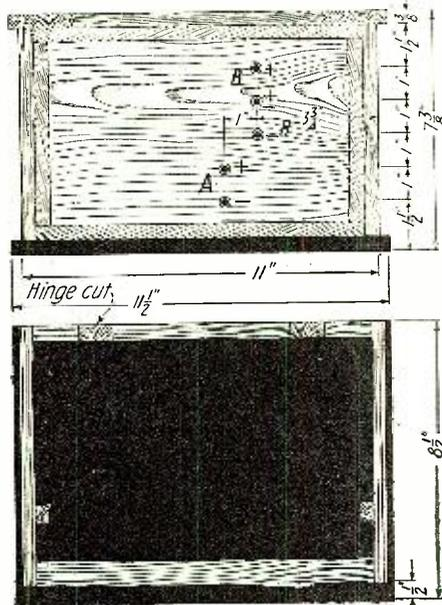

Fig. 4
The cabinet shown in Fig. 4 was made of $\frac{3}{8}''$ oak, mission finish, measuring 7"x11" by $8\frac{1}{2}''$ deep. This matches perfectly with the novel short-wave regenerator unit previously described; in fact, it is the same cabinet except that it is 11" instead of 18" wide. Fig. 4 gives all important dimensions and shows the locations on the back for the battery binding posts.
The battery binding posts are shown schematically in Fig. 3 in vertical rows, as they are shown in the cabinet plan in Fig. 4. With this scheme of battery binding post arrangement it will be found easy to make all battery connections. Beginning at the top we have respectively: (1) Positive terminal of plate battery; (2) Terminal for 22½ detector plate voltage tap; (3) Negative terminal of plate battery; and below and in a line to one side; (4) Positive terminal of storage battery; and (5) Negative terminal of storage battery. This gives us a simple rule to follow when hooking on batteries; namely, high voltage at top—low